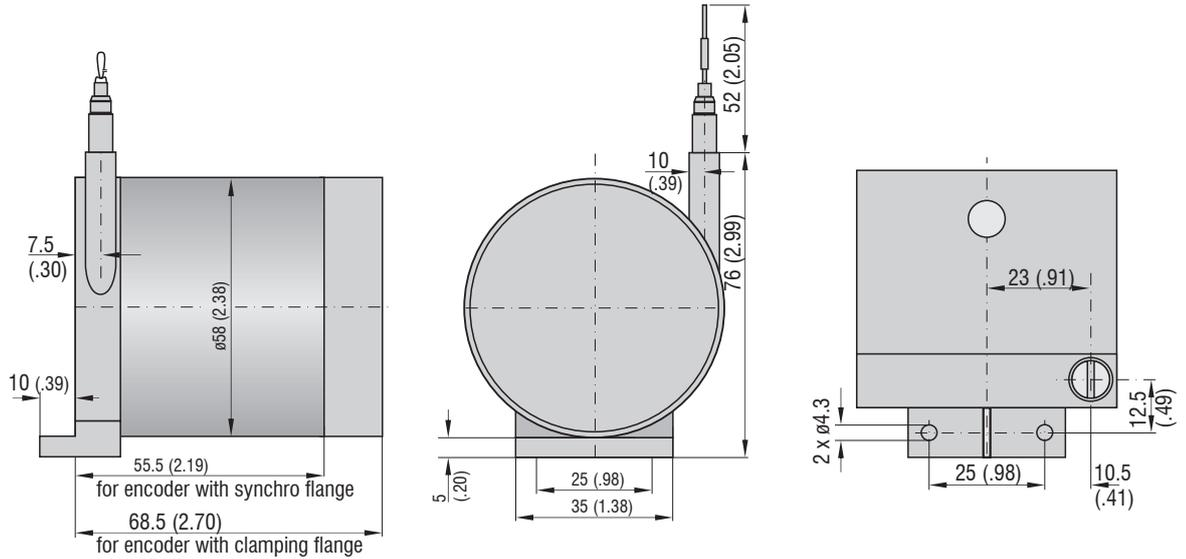

Fig. 4 Dimensional drawing of WDS-Z60-M series, dimensions in mm (inches, rounded off)
- Z60 series: Mounting through bores for two M4 DIN 931 screws, see Fig. 4.